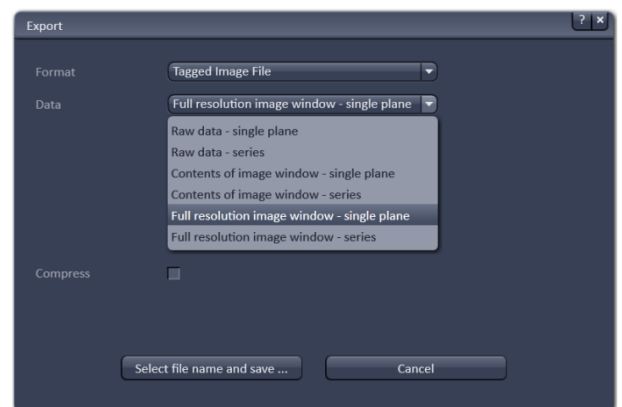

Fig. 712 Data type selection
- Select the data type which the image is to be exported under **Data** (Fig. 712).